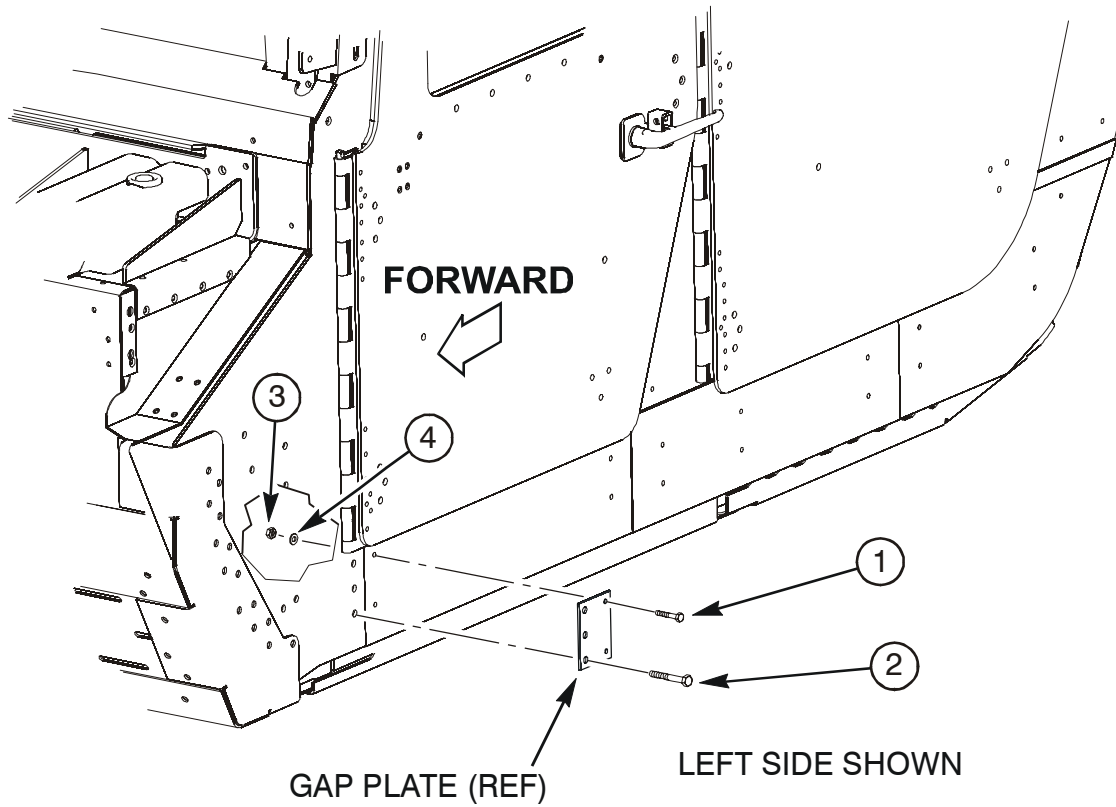

Figure 3.
5. Remove two screws (1), two washers (4), two nuts (3) and three screws (2) securing gap plate to vehicle. See figure 3. Discard screws (1 and 2) and retain gap plate for re-installation.